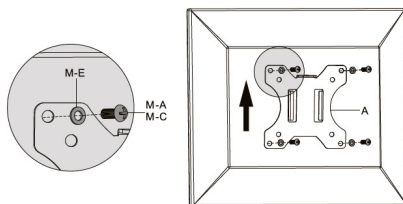

Figure 5
2. Remove any **Screws** or **Place Holders** from the **VESA Mounting Holes** on the back of the **Monitor**. (Figure 5)
3. Align the **Screw Holes**, located on the **VESA Mount (A)**, with the **VESA Mounting Holes**, located on the back of the **Monitor**. The **VESA Mount** can support a 75 x 75 or 100 x 100 mounting pattern.
**Note** *When attached, the **VESA Attachment Tab**, located on the **VESA Mount (A)**, should be positioned toward the top of the **VESA Mount (A)**.*
6. Insert the four **Screw Assemblies** through the **Screw Holes** on the **VESA Mount (A)**, and into the **VESA Mounting Holes**, located on the back of the **Monitor**, and tighten, using a **Phillips Head Screwdriver**, to complete the **Monitor Mount Assembly**.